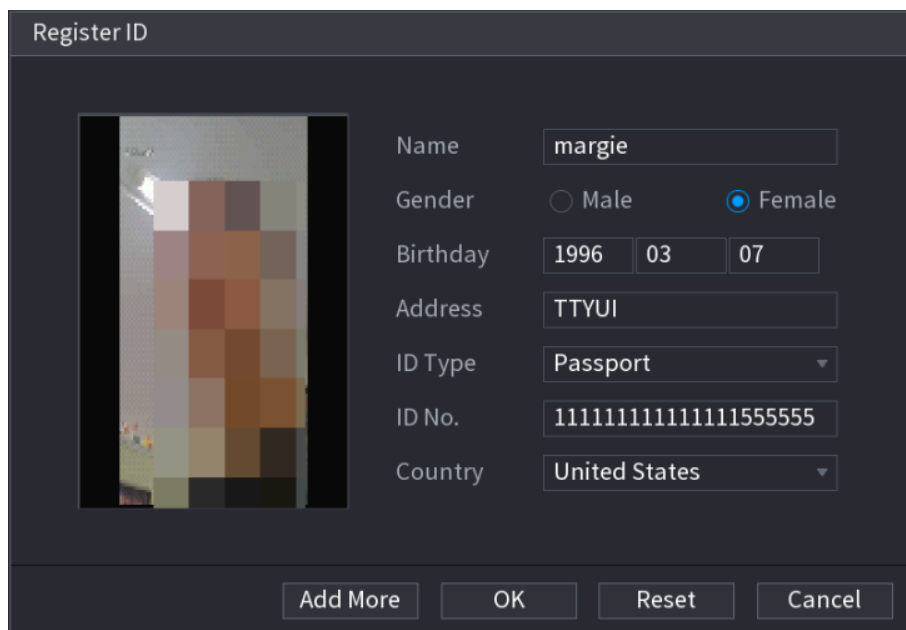

Figure 5-143
Step 5 Select a face picture and enter the registration information. See Figure 5-143.